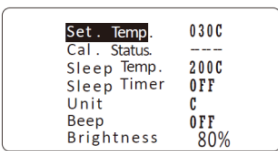

Fig.5
3.1. When Cal. status display "----"(see Fig 5) · it means temperature have not calibration.